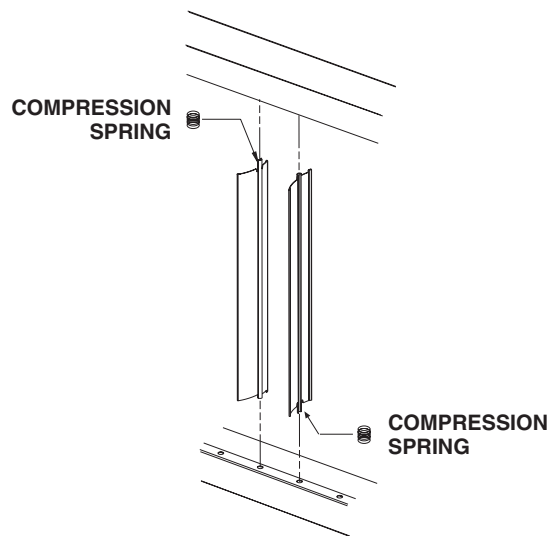

Figure 3. Louver Installation
- b. With wider louver blade facing in toward heat exchanger, push tab with compression spring into hole in top or bottom louver frame (Figure 3)—spring compresses. Insert tab on other end of louver into opposite louver frame. For left airflow, compress spring into top louver frame. For right airflow, compress spring into bottom louver frame.